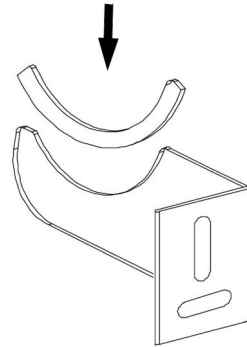

Figure 4 | Inserting Bracket Guards
3. Place the Bracket Guards in the Brackets (**Figure 4**).